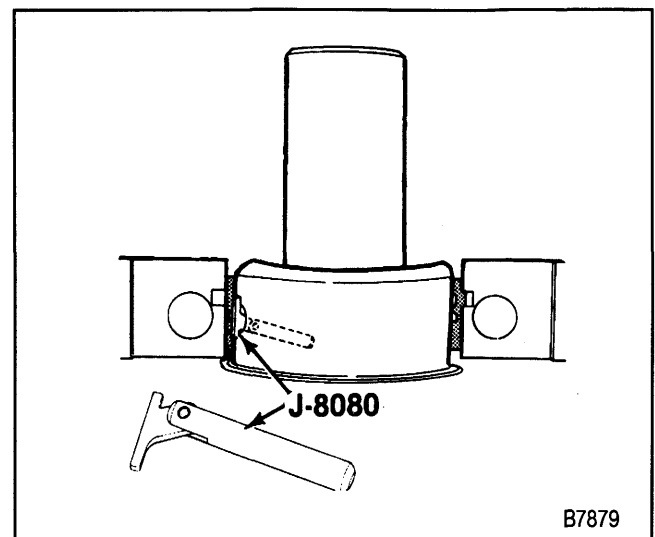

Figure 46—Removing the Main Bearing Insert
Remove or Disconnect (Figure 46)
- Insert J 8080 into the crankshaft oil hole (figure 46).
Install or Connect (Figures 46 and 47)
- A. Insert J 8080 into a crankshaft main bearing oil hole (figure 46).